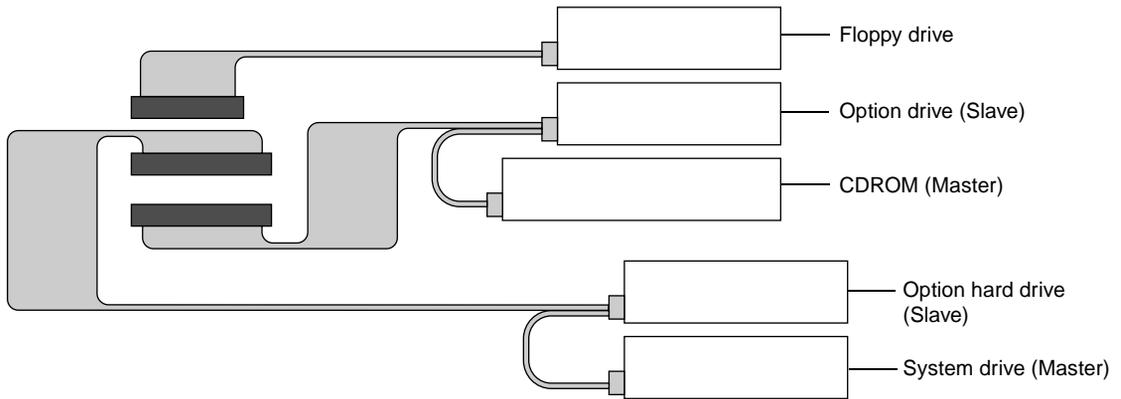
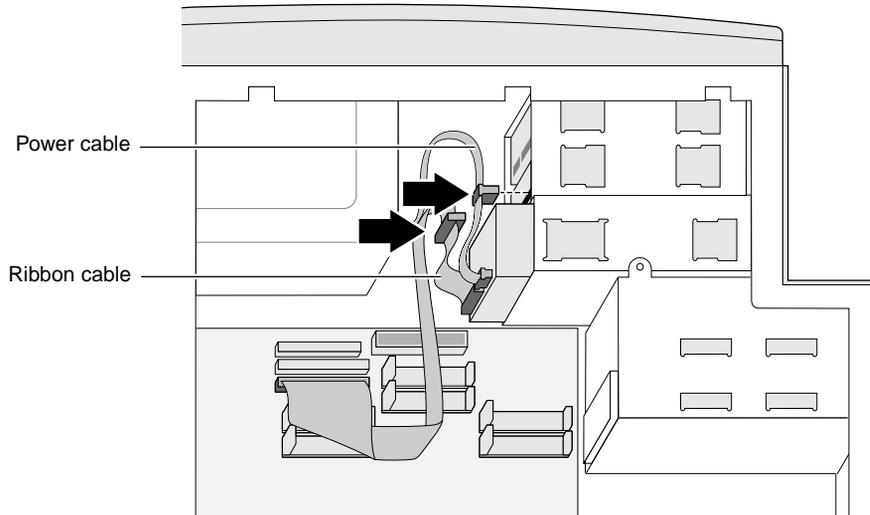
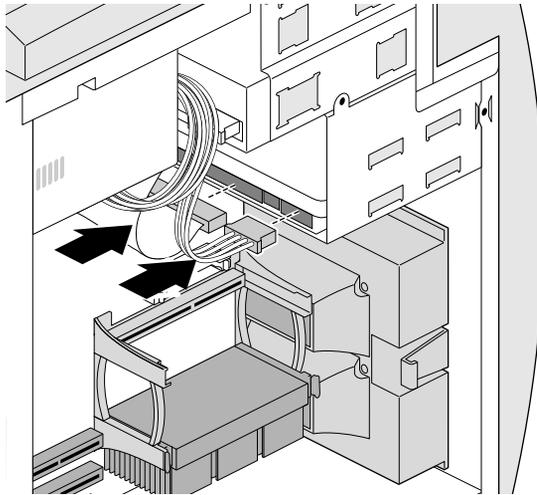

Figure 4-1 Cabling and Configuration for Internal EIDE Drives
Figure 4-6 Attaching the Cables to a Removable Media Drive
Figure 4-14 Attaching Cables to an Internal Hard Drive
Refer to Figure 4-1 for correct cabling and configuration information for the internal EIDE drives.
9. Connect the power and ribbon cables, as shown in Figure 4-6. To see a more detailed diagram of the correct ribbon cabling for the drives, refer to Figure 4-1.
- Check to make sure the power and ribbon cables are correctly attached to the back of the drive (see Figure 4-1).
12. Attach the power and ribbon cables to the back of the drive (or drives, if two are installed), as shown in Figure 4-14. To see a more detailed diagram of the correct ribbon cabling for the drives, refer to Figure 4-1.